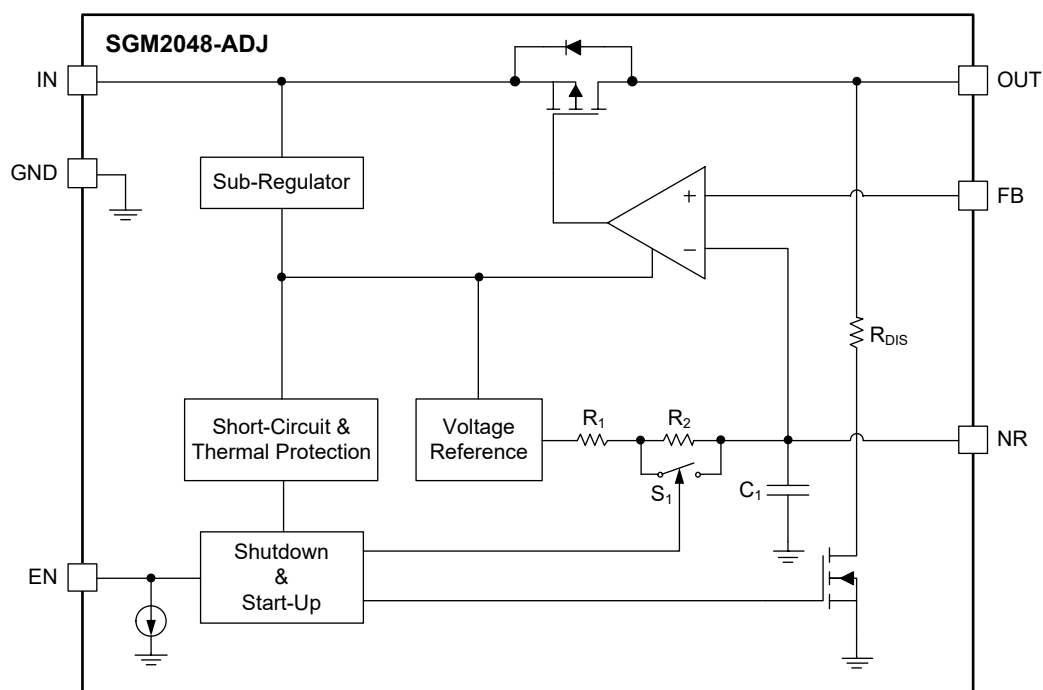
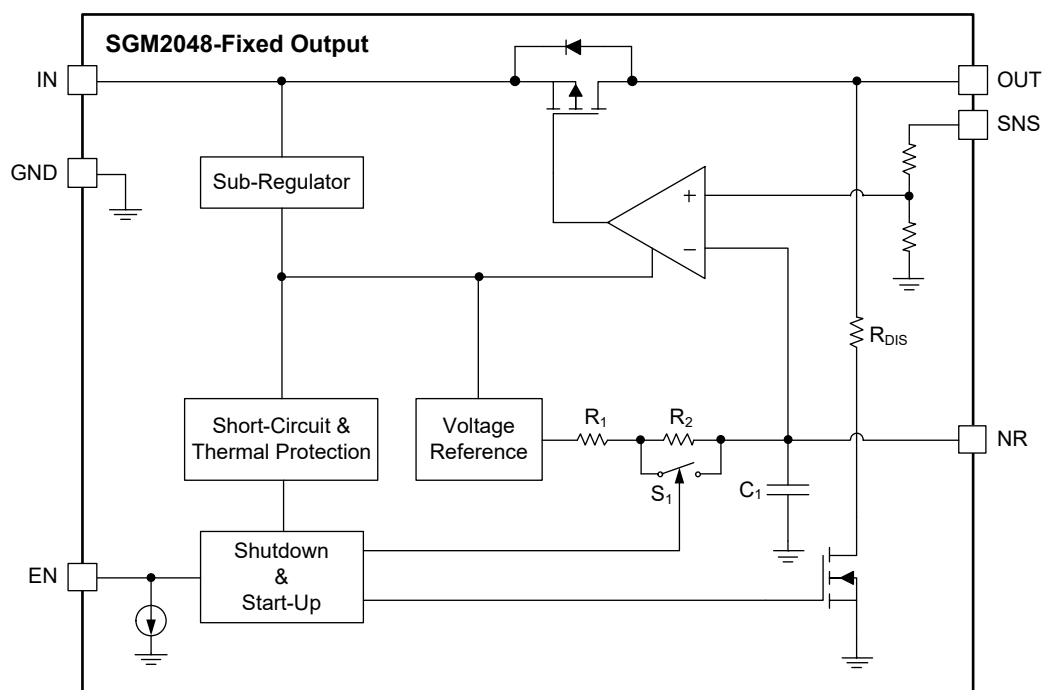

Figure 2. Adjustable Output Voltage Internal Block Diagram
Figure 3. Fixed Output Voltage Internal Block Diagram
In Figure 2 and Figure 3, a low-pass (RC) filter is used to reduce the noise of bandgap voltage reference, the external  $C_{NR}$  and the resistance controlled by the quick-start circuit consists of this filter. The switch for quick-start is closed at start-up,  $C_{NR}$  will be charged by  $V_{REF}$  circuit and there is only 33k $\Omega$  resistance between bandgap circuit output and the NR pin. It's about 2ms after the device is enabled that the switch for quick-start will be turned off, the resistance between the NR pin and bandgap circuit output will be changed to about 265k $\Omega$ . This low-pass filter helps LDO achieve very good noise-reduction after start-up due to resistance is changed from 33k $\Omega$  to 265k $\Omega$ . Generally, low leakage ceramic capacitor is used and the value of  $C_{NR}$  is larger than 10nF. Larger  $C_{NR}$  is better to reduce the noise of LDO, but it prolongs the start-up time of LDO, the value of  $C_{NR}$  must be the trade-off between noise and start-up time.